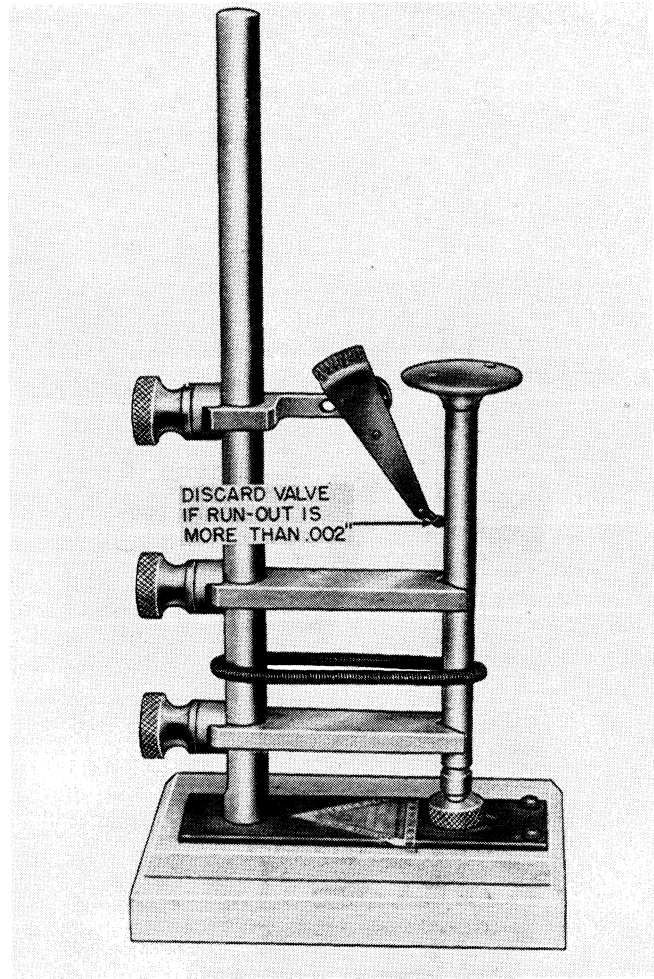

Figure 27 - Checking Valve Stem Run Out
5. Check valve stem for straightness. If runout is more than .002, discard valve. Figure 27.